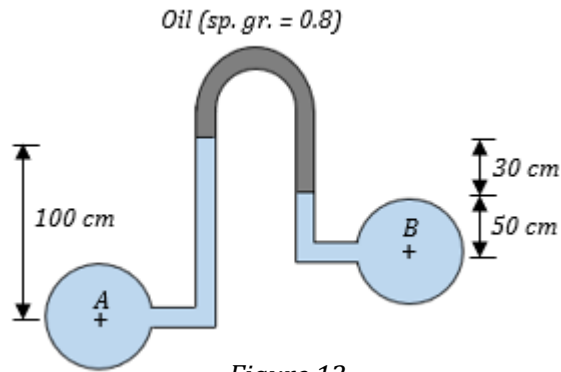

Figure 12
18. In below figure 12 shows an inverted differential manometer connected to two pipes A and B containing water. Find the differential of pressure between pipes A and B.